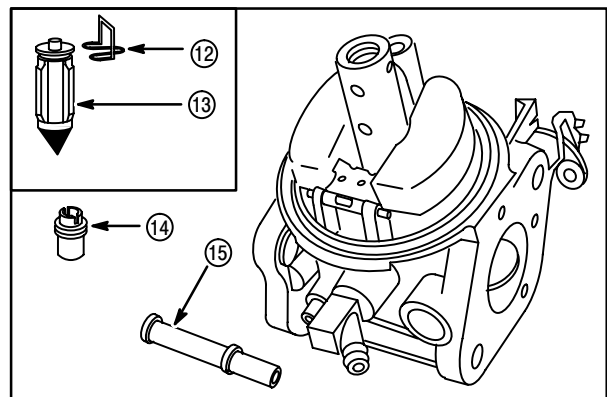

**Fig. 35**
10. Install new “E” ring (11), washer (10) and felt seal (9) onto choke shaft, **Fig. 35**.
11. Insert spring (8) and check ball (7) in to spring pocket. Compress with a small round punch.
13. Install choke plate as shown, **Fig. 35**.